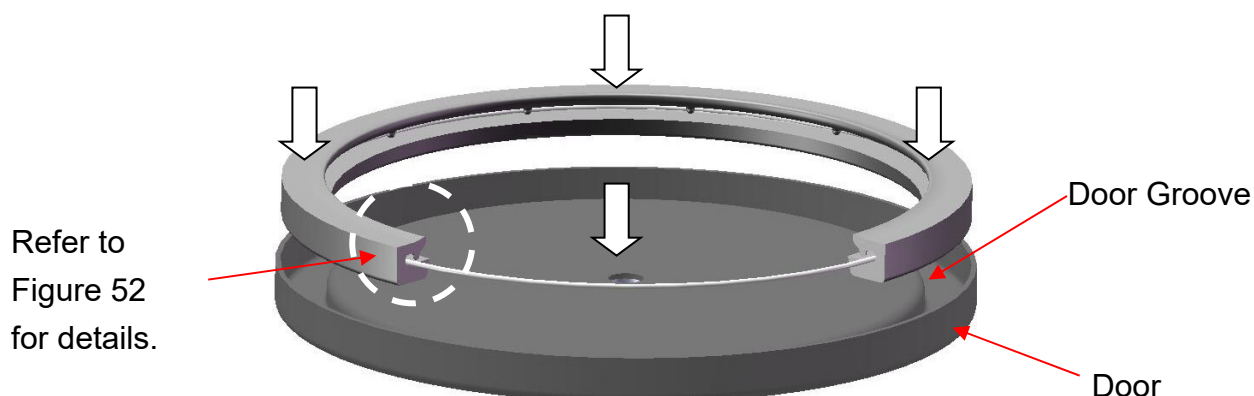
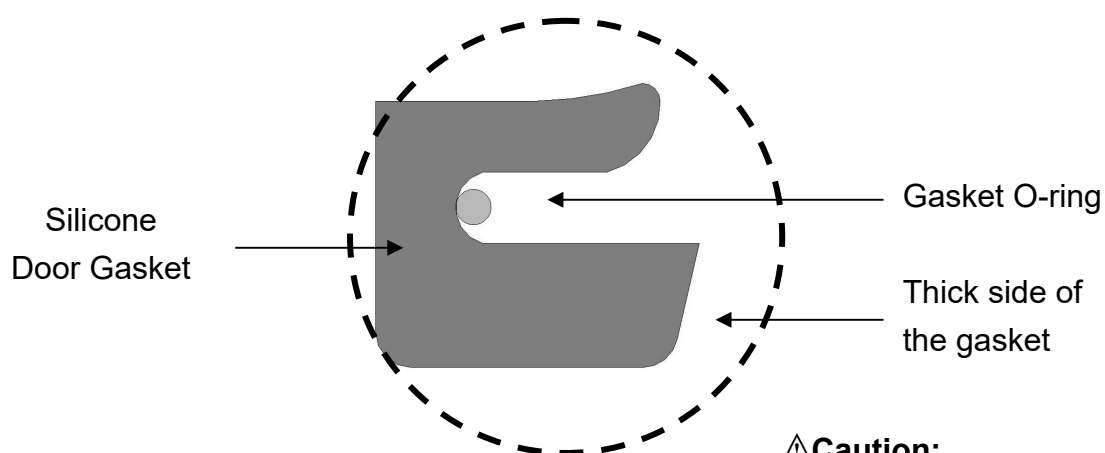

Figure 51
Figure 52
3. Install the gasket with the o-ring inside to the door groove. Press the gasket into the door groove evenly as Figure 51. Take notice of the installation direction while pressing the gasket into the groove as the gasket is designed with a trapezoidal section. Refer to Figure 52 for the correct direction.